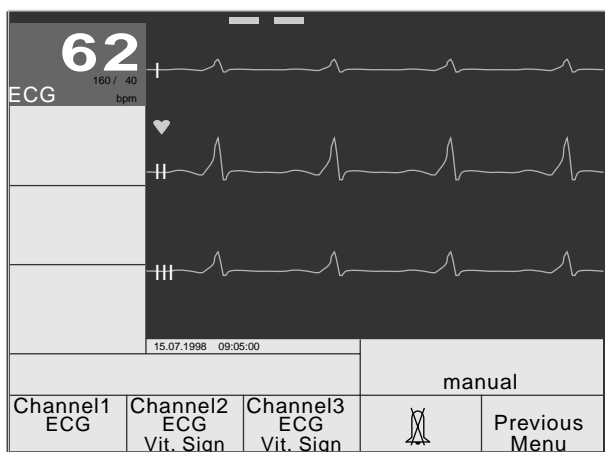

Figure 4-17. Menu for selection of the displayed ECG leads
- Press **F1** **I..III, aV...V, Paddle** again. The menu for selection of the ECG lead appears (Figure 4-17).